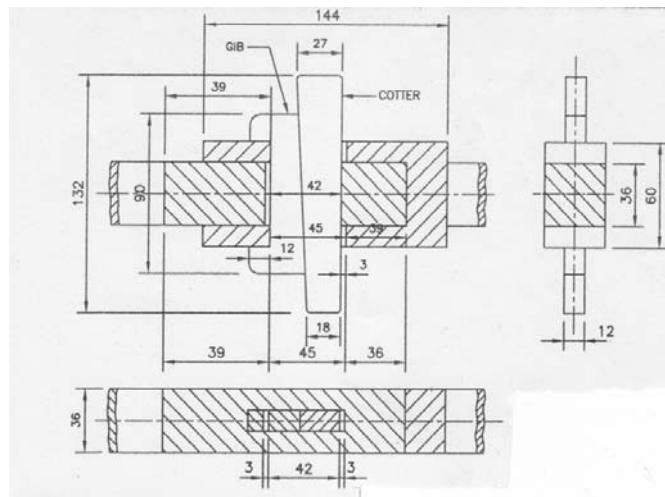

FIG. NO. 7
Q.4	Two orthographic views of a “Gib and Cotter joint “ is shown in FIG. NO 7. Draw its necessary two views of the following dismantled parts of the assembly.